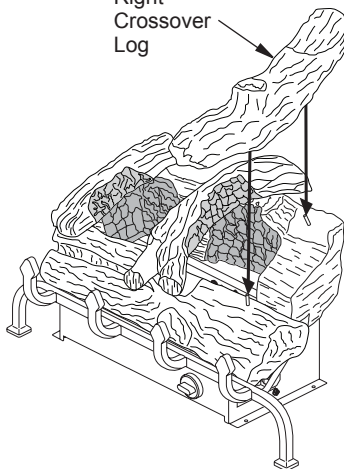

Figure 21 - Installing Right Crossover Log
- Place the right crossover log as shown in Figure 21. The bottom of the log is marked with a "R" for right. Match square peg on right side of rear log with square hole in bottom of right crossover. Match round peg on right side of front log with round hole in bottom of right crossover log.